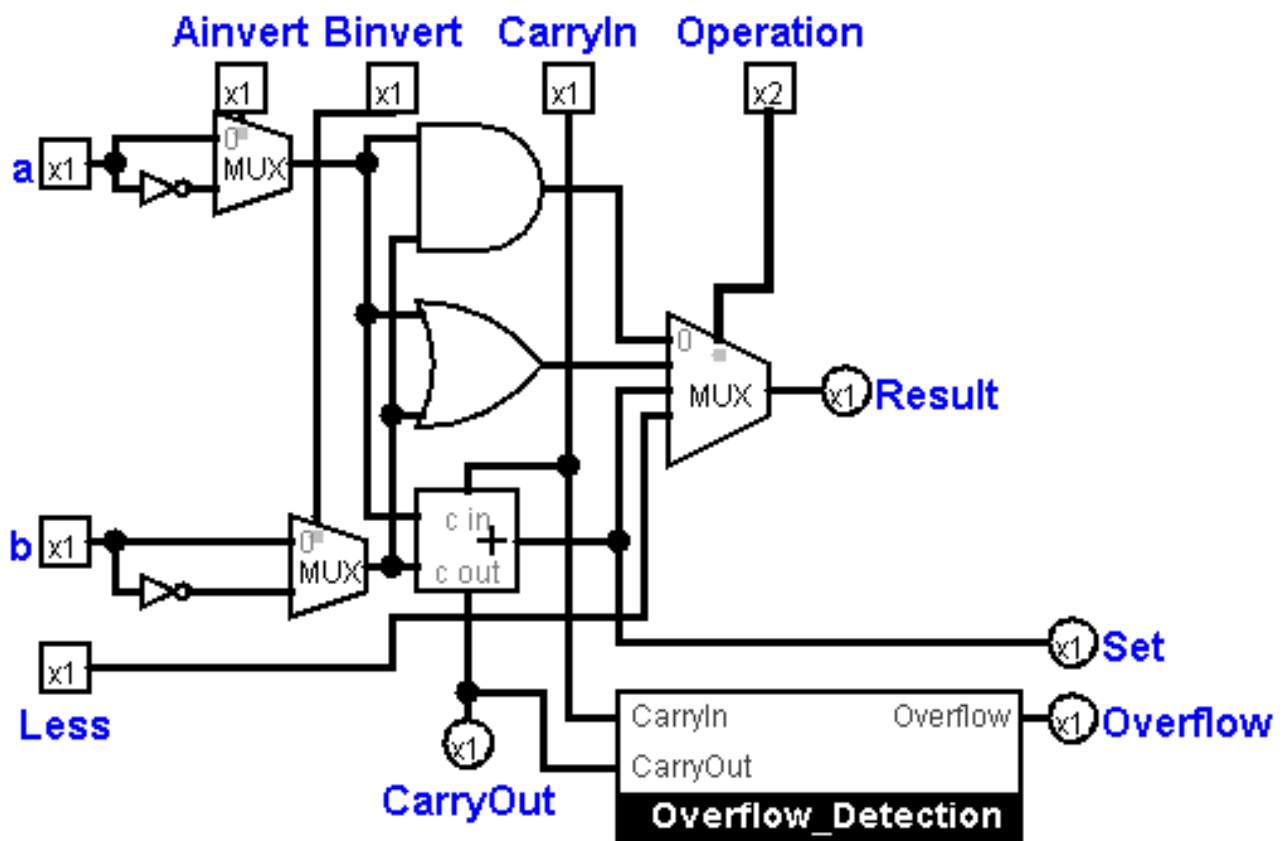

Figure 3: 1-bit ALU handling slt (**Set**, **Overflow** circuitry only appear in most significant ALU)
- to implement the `slt` or set-on-less-than instruction as in Figure 3: